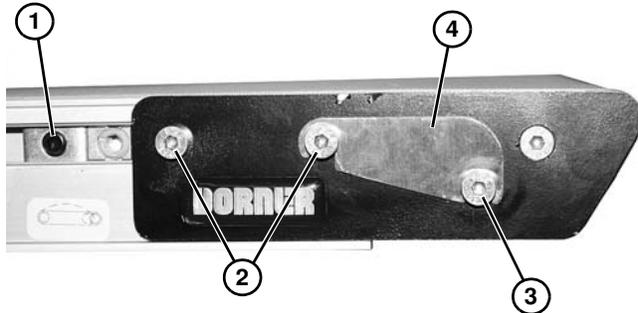
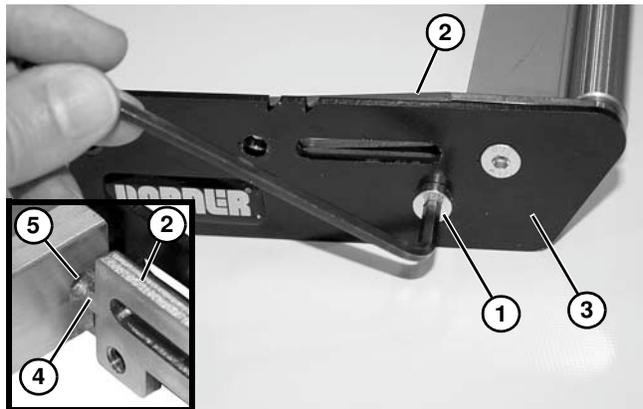

Figure 106
Figure 107
1. On both sides of conveyor, loosen cam fastening screw (**Figure 106, item 1**) (if equipped) and slide cam assemblies toward the center of the conveyor.
2. On both sides of conveyor, loosen fastening screws (**Figure 106, item 2**) to remove belt tension. Remove belt from end of conveyor.
3. On both sides of conveyor, loosen fastening screw (**Figure 106, item 3**) and remove dust cover (**Figure 106, item 4**) (if equipped).
4. Remove nosebar tail from the conveyor and place on an open work surface. On one side of nosebar tail, remove two fastening screws (**Figure 106, item 2**).
5. Remove lower screw (**Figure 107, item 1**) and remove tail nut bar (**Figure 107, item 2**) and side plate (**Figure 107, item 3**).
During reassembly, make certain that the tail nut bar nipple (**Figure 107, item 4**) is inserted into the support bar hole (**Figure 107, item 5**).
10. Assemble and install head in reverse order of removal. Use a 4 mm hex-key wrench to tighten lower screw (**Figure 107, item 1**) to 30 in-lb (3.4 Nm). Leave two fastening screws (**Figure 106, item 2**) loose for belt tensioning.